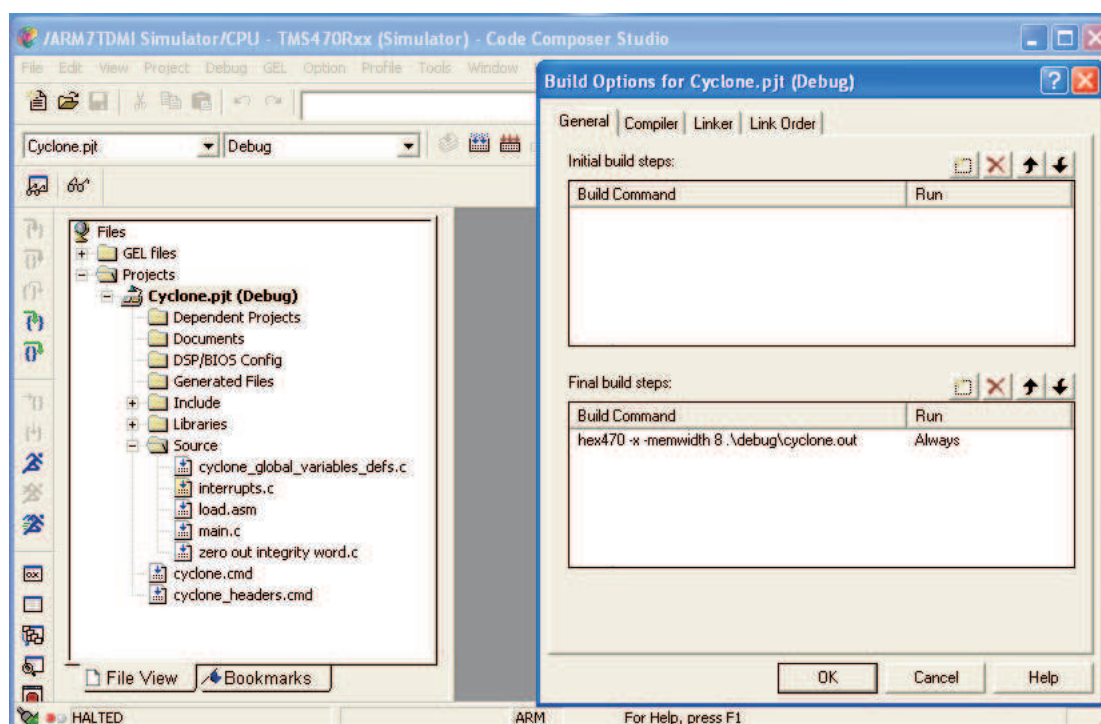

Figure 17. Open a Project File With Example of *Cyclone.pjt* - Build Options and General Tab
4. Convert the file *Cyclone.out* to *Cyclone.x0*. *Cyclone.x0* is the final firmware code downloaded to the UCD3138 device memories. To convert *Cyclone.out* to *Cyclone.x0*, first click the *General* tab under *Build Options for Cyclone.pjt (Debug)*, as shown in Figure 17. Second, under the *Build Command*, confirm that the file to be converted is *Cyclone.out*. Third, click *ok* to close *Build Options*.